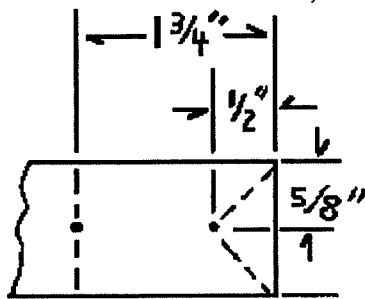

Figure 3
Mark out the vee in this end of the tool as shown in Figure 3, below. Heat 2 or 3 inches of this end to yellow and cut out the vee with a hot cutter or a sharp butcher. The cutting process will spread the vee somewhat, so once the vee has been cut out, reheat the part and reshape the vee. File out any sharp edges.
-On the end you just decorated, measure back 1 3/4" as shown in Figure 3 and mark with a center punch, on the same side as the decorations deep enough so you can see the mark when the part is hot. Set up a vise so you can clamp the short end quickly. Practice clamping the part in the vise so that you will bend the part TOWARD the decorations. Now heat the part up to yellow, quickly clamp it in the vise at the center punch mark, and using a hammer to keep the bend short and square, bend the body to a 90 degree angle.